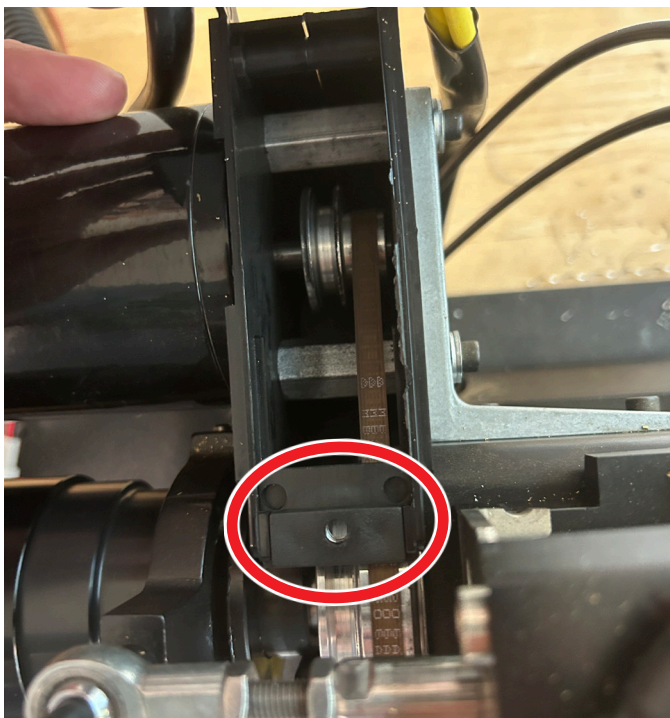

FIGURE 9—Location of the lock-nut tab.
- J. Place the lock-nut tab back in the belt cover slots (see Figure 9).